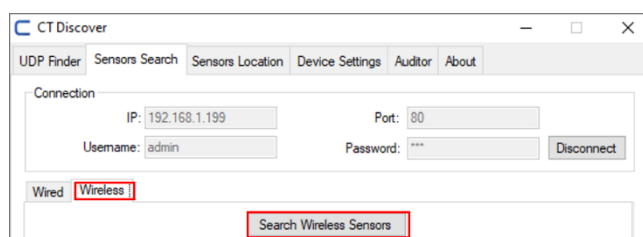

Figure 23 – Sensor Search Wireless Option
- To start a wireless search, select the “Wireless” option and click “Search Wireless Sensors” button (Figure 23). For each wireless sensor found on Nidus, one entry is added in the table. On table the user can check if the sensor is already added to Nidus or not, by checking the symbol on first column. Sensors already added will have the symbol ✓, and new sensors the symbol ✗. The search will run until the user stops it, by clicking again in button to stop the search. An icon will be showed if the search is running (⌂). To Nidus detect the Airo the user need to pass the magnet on Airo and wait for the communication